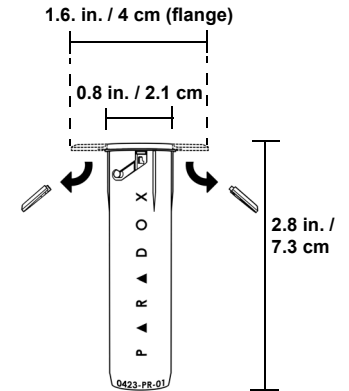

FIGURE 3
**Transmitter:** Drill a 3/4 in. x 2.75 in. depth (16 mm x 70 mm depth) hole in the frame and insert the DCT6 transmitter. Secure the transmitter body A- with two screws or B- with one screw and remove one flange if it interferes with the radial opening or C- press fit installation on narrow frames, see Figure 3, A, B and C.